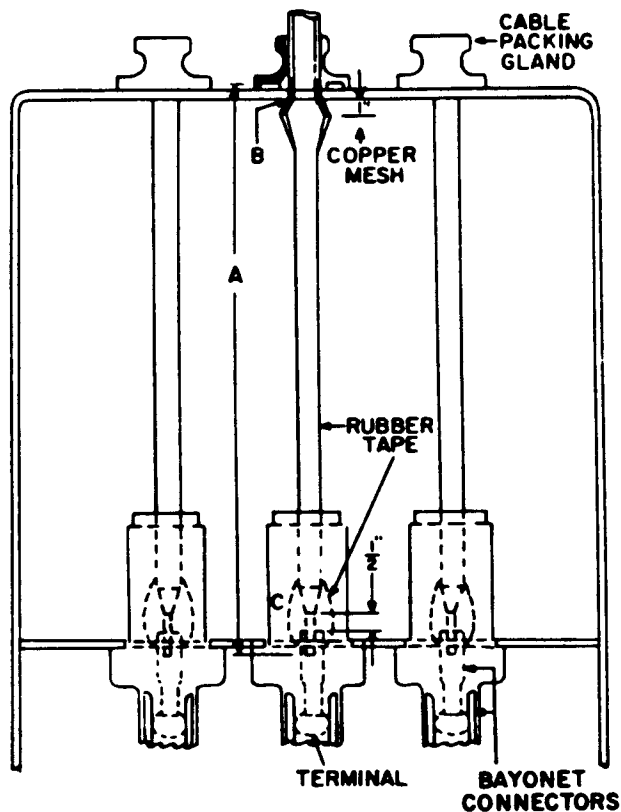

Fig. 6 Terminal chamber
2. Make reference marks as shown (refer to Fig. 6). Dimension (A) is a function of the height of the terminal chamber and the compression gland used. It should be arrived at by temporarily assembling a piece of cable in the compression gland and terminal chamber and marking it just below the rubber bushing in the gland.
5. Remove rubber jacket, metallic shield, and *all traces of semi-conducting tape to point (B)*. Pencil insulation at point (C) for 3/4 inches.
7. Apply two 1/2 lap wraps of tape from point (B) to 1/4 inches over the bayonet connector.
8. Starting at (B), build the stress cone with tape. Remove the rubber jacket 1/2 inch back from (B). Solder the copper mesh tape to the cable ground shield. Use the tape to extend the ground to the maximum diameter of the stress cone. Solder the copper mesh tape back on the previous wraps. Allow a sufficient length of tape for its extension back along the cable